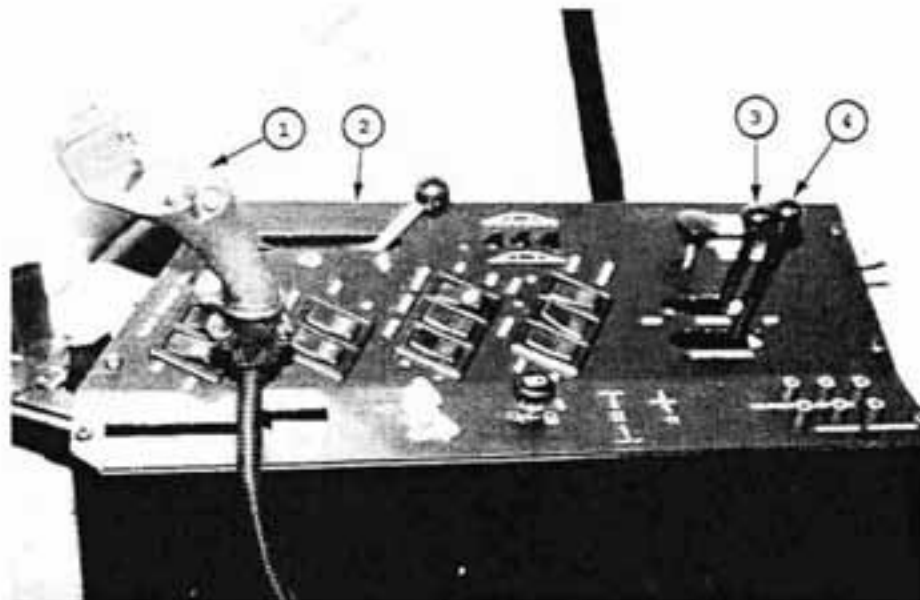

Figure 1
1. Boom control levers operate the lift, leveling, and fold cylinders. Item 1; Figure 1.
2. The solution variable flow control lever operates the solution pump hydraulic motor for spray pressure. The more solution pressure desired, the further the lever needs to be moved forward. Item 2; Figure 1.
3. The agitation variable flow control lever operates the hydraulic motor for the required speed. The more speed required, the farther the lever needs to be moved forward. Item 3; Figure 1.